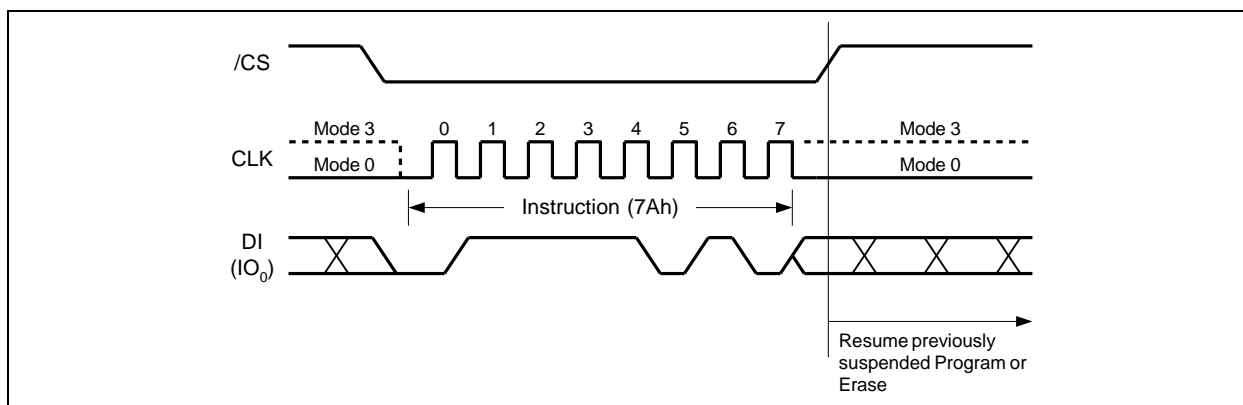

Figure 36. Erase/Program Resume Instruction
B.3.5 The Erase/Program Resume instruction "7Ah" must be written to resume the Sector or Block Erase operation or the Page Program operation after an Erase/Program Suspend. The Resume instruction "7Ah" will be accepted by the device only if the SUS bit in the Status Register equals to 1 and the BUSY bit equals to 0. After issued the SUS bit will be cleared from 1 to 0 immediately, the BUSY bit will be set from 0 to 1 within 200ns and the Sector or Block will complete the erase operation or the page will complete the program operation. If the SUS bit equals to 0 or the BUSY bit equals to 1, the Resume instruction "7Ah" will be ignored by the device. The Erase/Program Resume instruction sequence is shown in Figure 36.